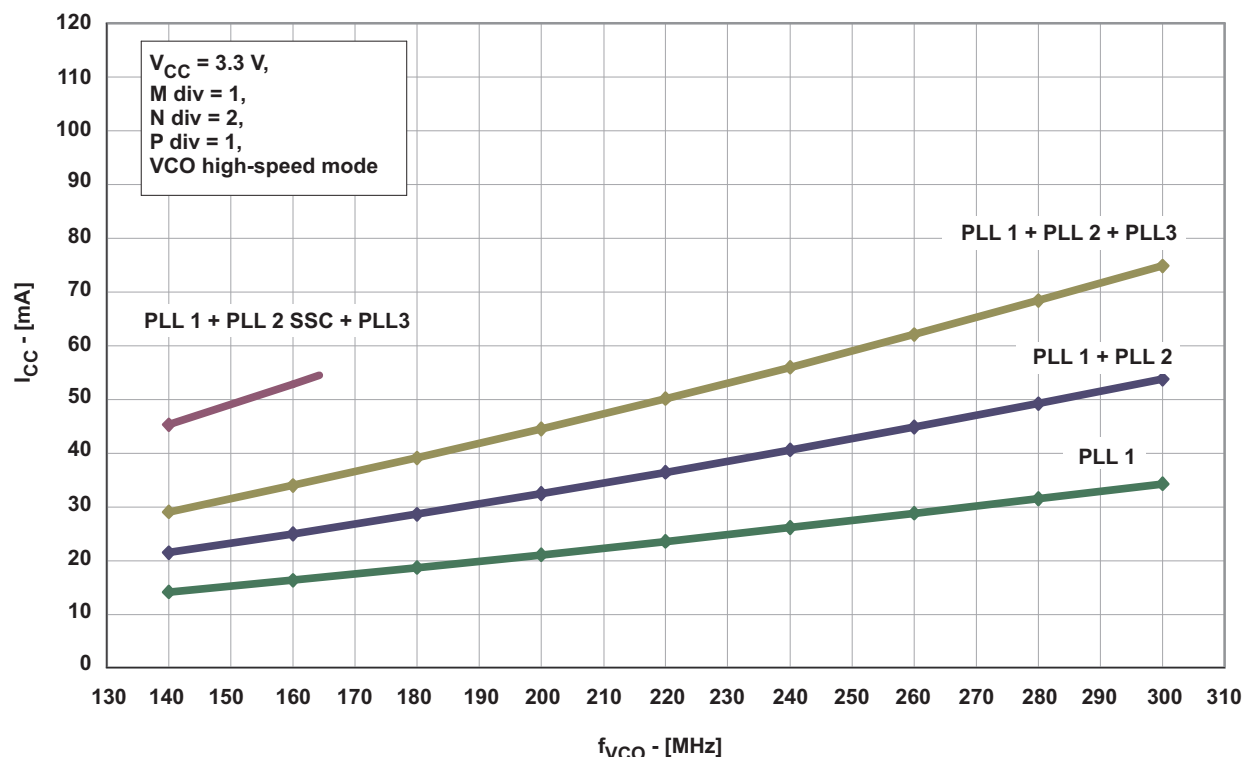
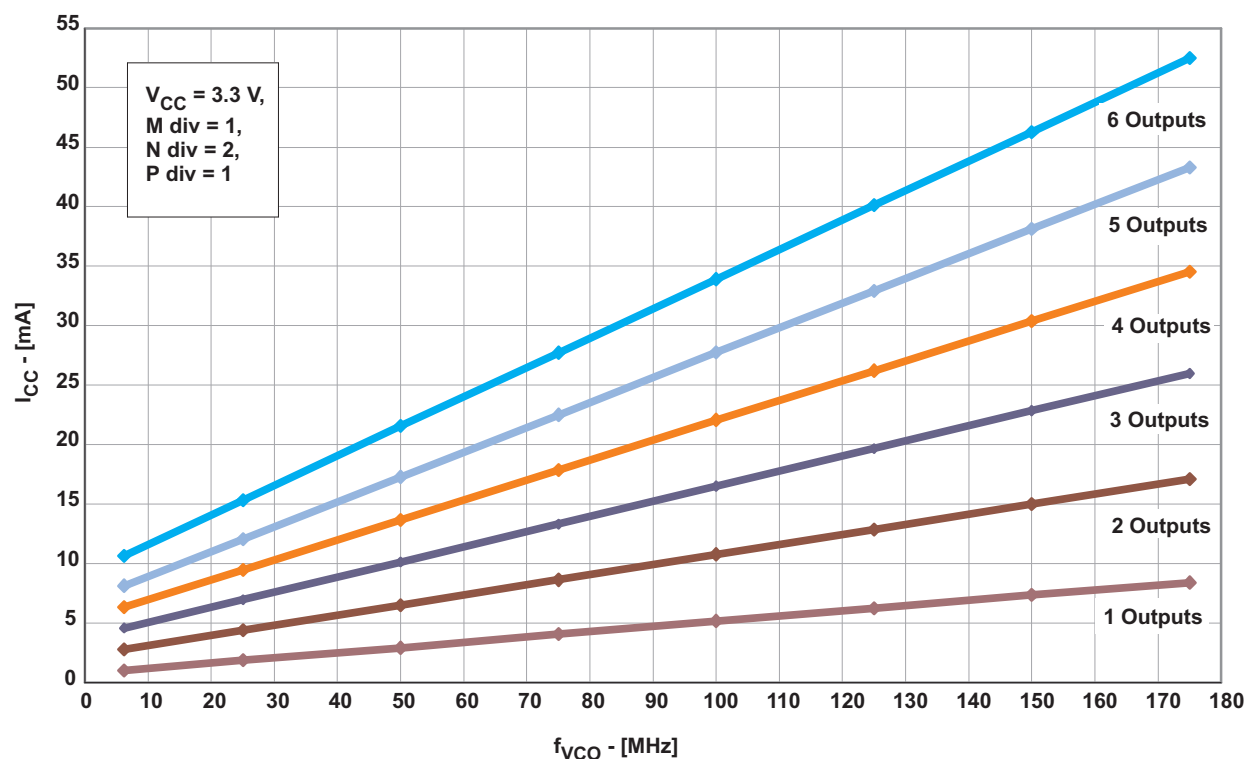

Figure 3.  $I_{CC}$  vs Number of PLLs and VCO Frequency (VCO at High-Speed Mode, Byte 6 Bit [7:5])
Figure 4.  $I_{CCOUT}$  vs Number of Outputs and VCO Frequency
(1) All typical values are at respective nominal  $V_{CC}$ .(2) For calculating total supply current, add the current from Figure 2, Figure 3, and Figure 4. Using high-speed mode of the VCO reduces the current consumption significantly. See Figure 3.(3) Normal-speed mode or high-speed mode must be selected by the VCO frequency selection bit in Byte 6, Bit [7:5]. The min  $f_{VCO}$  can be lower but impacts jitter-performance.
(4) The maximum output frequency may be exceeded, but specifications under the Recommended Operating Condition may change and are no longer assured. Do not exceed the maximum power dissipation of the 20-pin TSSOP package (600 mW at no air flow).